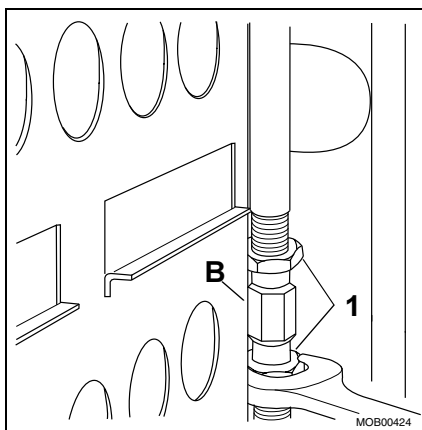

Fig. 10 Locking nuts
11. Loosen the locking nuts slightly (pos. 1 / Fig. 10) (the lower nut has a left hand thread) on adjustment screw **B** (Fig. 10), from the inside of the MOBILETT.